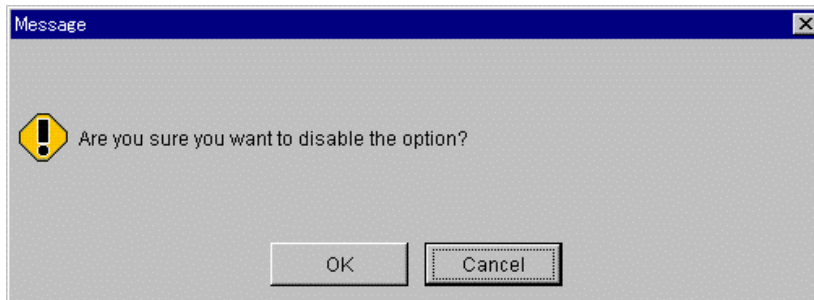

Figure 5.1 Disable Option Message Dialogue Box
6. The following screen message is displayed (see Figure 5.1). Click the **OK** button.